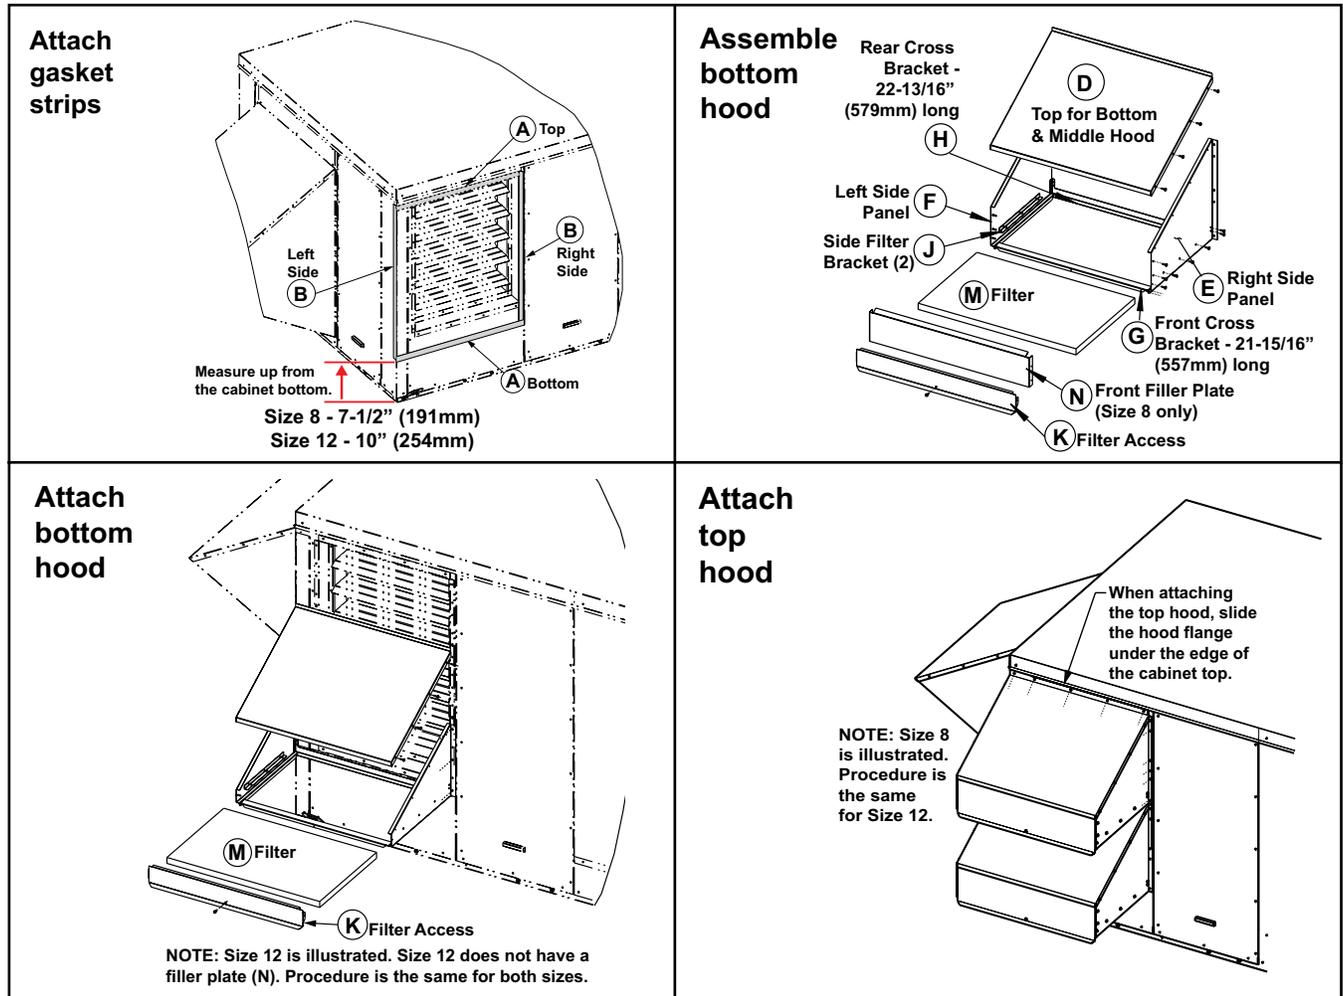

Figure 11. Inlet Air Hood Assembly
| Item (See Figure 11) | Component | Description | Unit Size | |
- c. Determine gasket strip location (see Figure 11) and clean surface. Carefully attach each gasket strip in order as follows:
- (1) BOTTOM gasket strip (item A, Table 5): at corner, measure up from bottom of cabinet: 7-1/2 inches (191 mm) for unit size 8 or 10 inches (254 mm) for unit size 12. At that point (starting at corner), mark straight, horizontal line. Position gasket strip with bottom edge on line and adhere gasket.
- (2) SIDE gasket strips (item B, Table 5):
- (3) TOP gasket strip (item A, Table 5): position top strip horizontally across top (connecting two side strips). Clean surface and adhere gasket.
- a. Assemble hood as shown in Figure 11, except for installing filter (item M) and filter access panel (item K).
- b. Attach assembled hood as shown in Figure 11:
- (1) Position hood so that rear cross-bracket is on bottom gasket strip, left side is on gasket strip on corner post, and right side is on other gasket strip.
- (2) On right side, align holes under gasket strip with holes in hood side panel. Adjust hood location slightly as needed and attach using screws.
- (3) On left side, ensure that holes align and attach left side of hood to corner post.
- a. Repeat step 3a (see Figure 11) to assemble middle hood. Position it above bottom hood.
- a. Repeat step 3a (see Figure 11) to assemble hood.
- b. When positioning hood on cabinet (see Figure 11), slide hood top flange under edge of cabinet top. If needed, loosen screw in cabinet top.